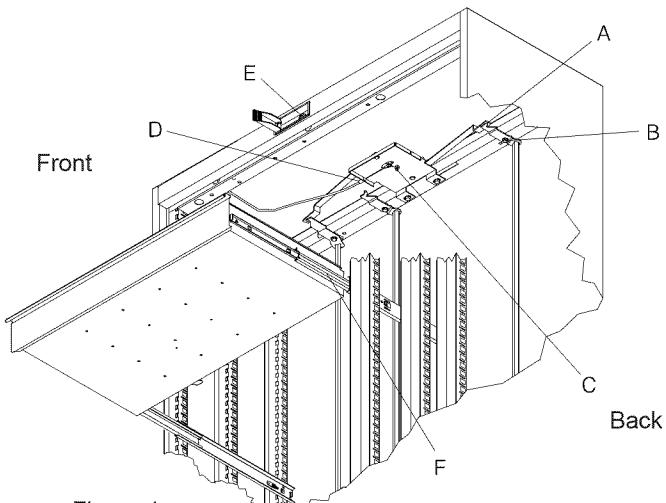

Figure 1
- Lubricate the Lockbar Pivot (A), Lockbar brackets (B), Lock Mechanism (C), and Cable ends (D) with spray lubricate twice yearly (See Figure 1)
- Lubricate the Lock (E) with graphite yearly.